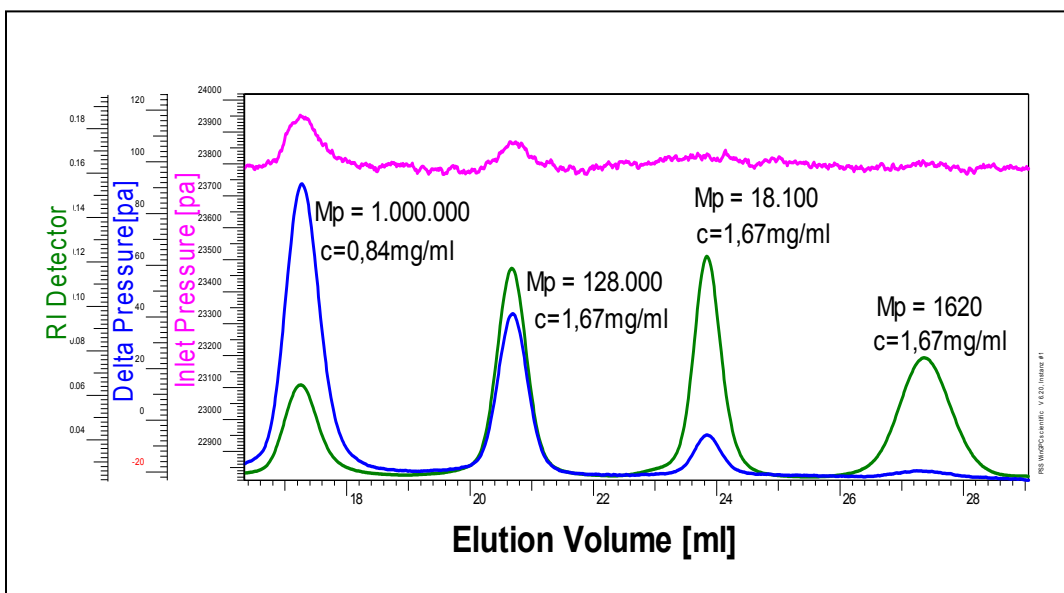

Figure 1
whereas in a SEC separation relies on the migration of the macromolecules through the pores of the stationary phase. In SEC larger molecules are excluded from entering the pores of the stationary phase, and elute earlier than the smaller molecules, which permeate through the pores of the stationary phase. A schematic of the separation mechanism is shown in **Figure 1**.
bridge design offered by PSS, the flow split is 80:20 (sample: reference), so much greater mass gets detected, (i.e. greater sensitivity). The result is much better signal-to-noise, even at very low molecular weights, and superior response over the older bridge design throughout the entire MW range, even as low as a few hundred Daltons. This becomes clear in Figure 1, which displays the GPC separation of four polystyrene standards (PS ReadyCal red) detected through refractive Index (RI) signal [Agilent HP 1100] and viscosity signals: inlet and delta pressure from the viscometer **ETA 1001**, captured with the power of WinGPC Unity software and viscosity module.
Note the quality of the delta pressure in comparison to inlet pressure signal. The lower molecular weights are still detectable by the four-capillary viscometer, even at concentration and injection volume typical of conventional GPC. The standard with lowest molar mass is detectable. (Mp = 1620 D, c = 1.6729 mg/ml). It is safe to say that the four capillary asymmetric design used in the ETA 1001 shows unsurpassed sensitivity, easily detecting compounds down to a few hundred molecular weight. The polystyrene data presented in Figure 1 also point out the difference between a concentration detector and a detector sensitive to molar mass. Since the RI detector's signal power depends only on sample concentration, the peak heights and areas of all standards are proportional to the concentration. Conversely, the viscometer's peaks of high molecular weight standards are more intense than peaks produced by low molecular weight species, because the signal intensity responds to concentration and viscosity.